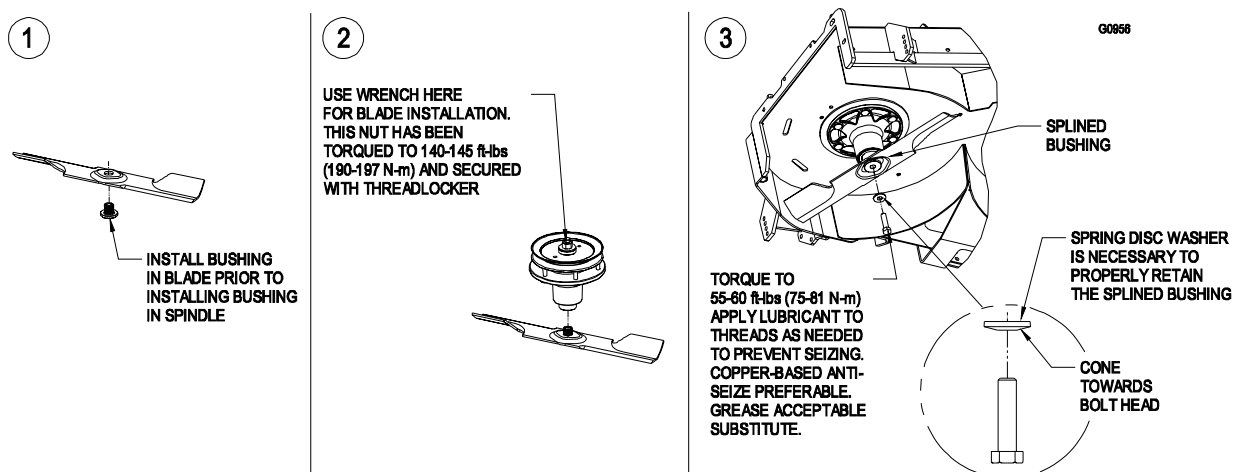

FIGURE 1
- d) Re-install the blades (if they were removed) in the following order (See Figure 1).